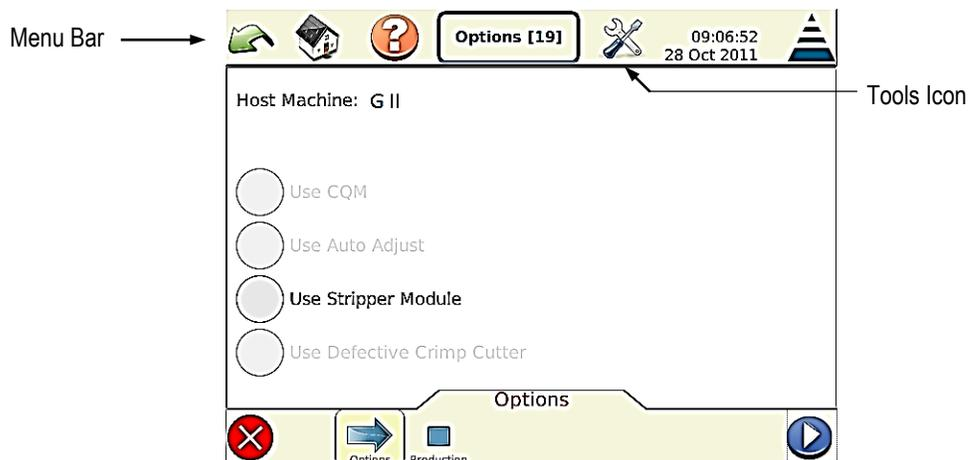

Figure 5
- a. Press the Tools icon located in the menu bar at the top of the screen. Refer to Figure 5.